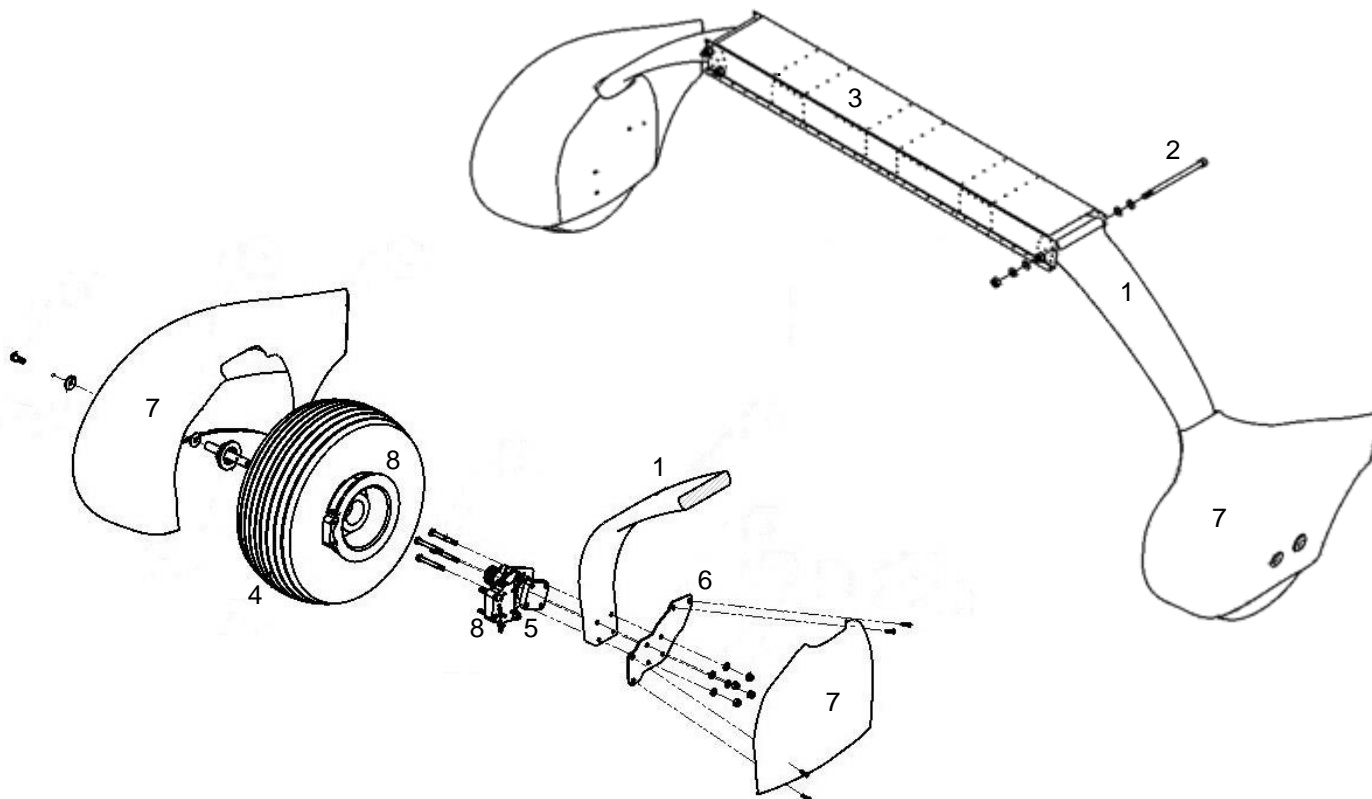

Figure 41: Main landing gear.
Refer to Figure 41. Refer to paragraph 1.7. The main landing gear consists of single section composite struts (1) attached (to the fuselage) using four bolts (2) threaded through bushings laid into the struts. Suspension is provided by the flexibility within the struts, which is attached transversely via a channel (3) (designed for purpose) in the lower centre fuselage. Wheels (4) are cantilevered on the main gear struts (1) via axles (5). Mounting plates (6) allow for the attachment of the inner halves of the wheel fairings (7). The system features hydraulically actuated disc brakes (8) controlled by a lever located on the cabin centre console (between the seats).